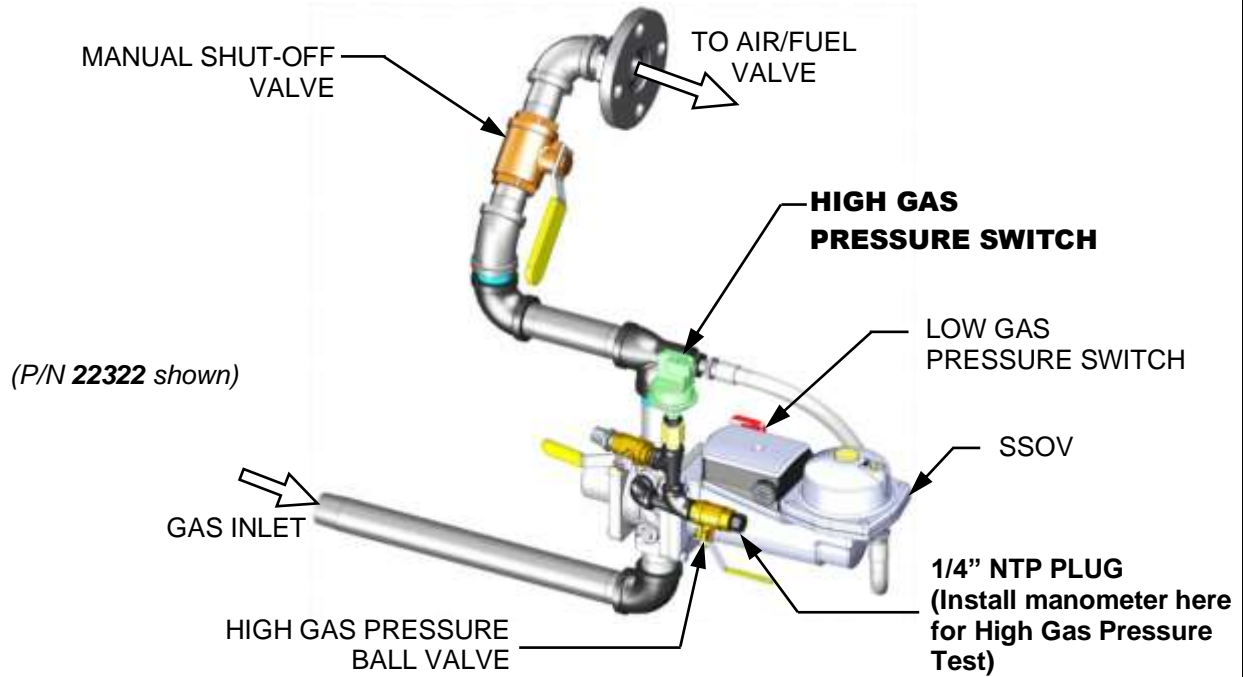
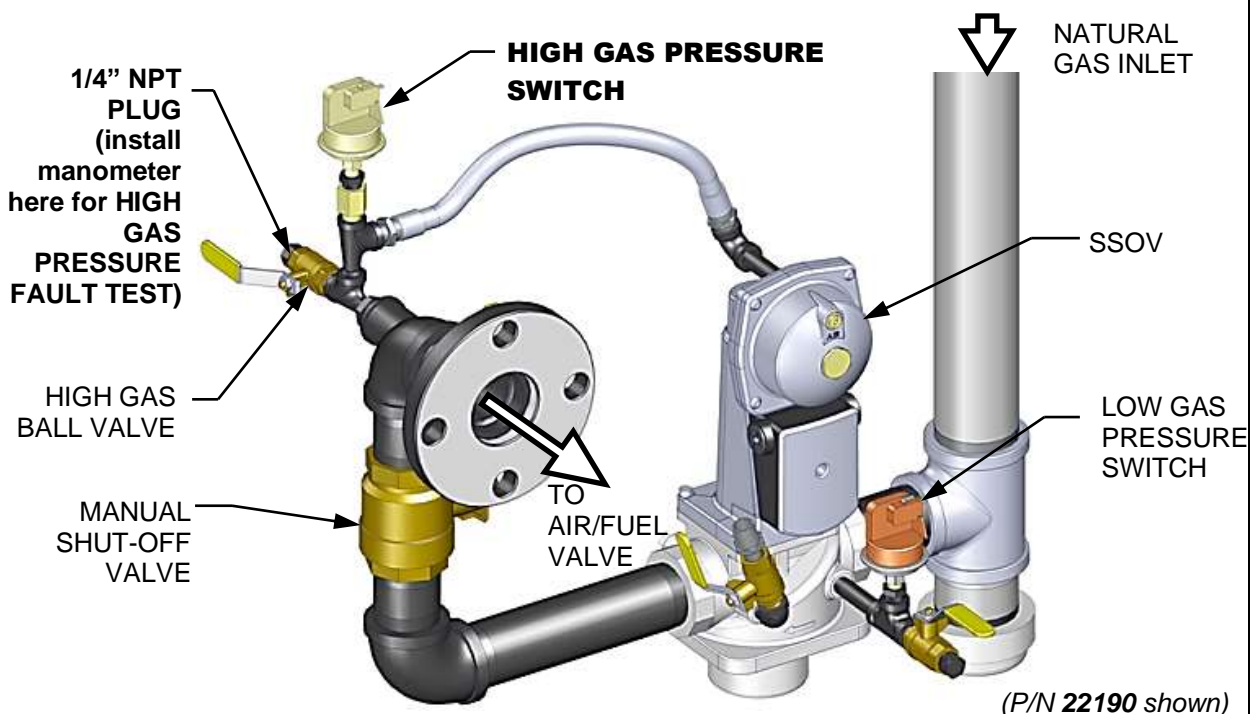

Figure 5-3a: BMK750/1000 HIGH Gas Pressure Test Components
Figure 5-3c: BMK2500: HIGH Gas Pressure Fault Test
To simulate a high gas pressure fault, refer to Figure 5-3a through Figure 5-3c and perform the following steps:
2. Remove the 1/4" NPT plug from the High Gas pressure leak detection ball valve shown in Figures 5-3a through 5-3c.